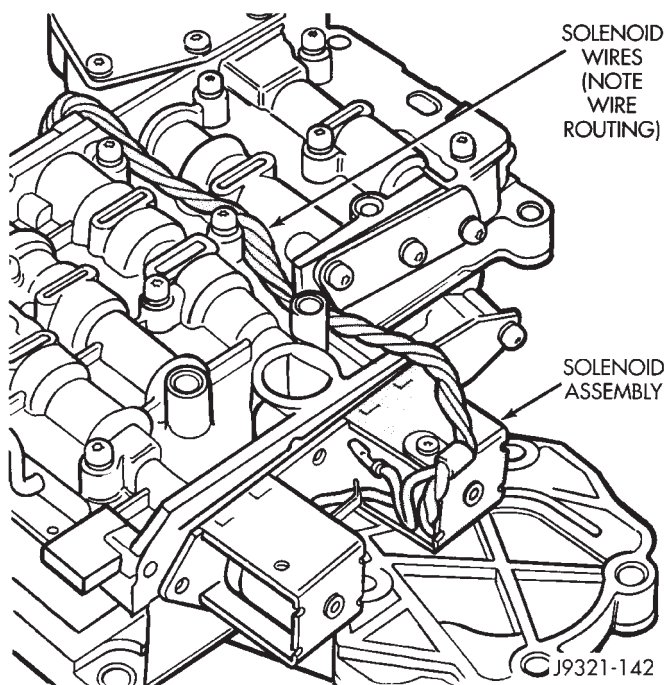

Fig. 100 Solenoid Wire Routing—46RH
(13) Note routing of solenoid wires for assembly reference (Fig. 100).